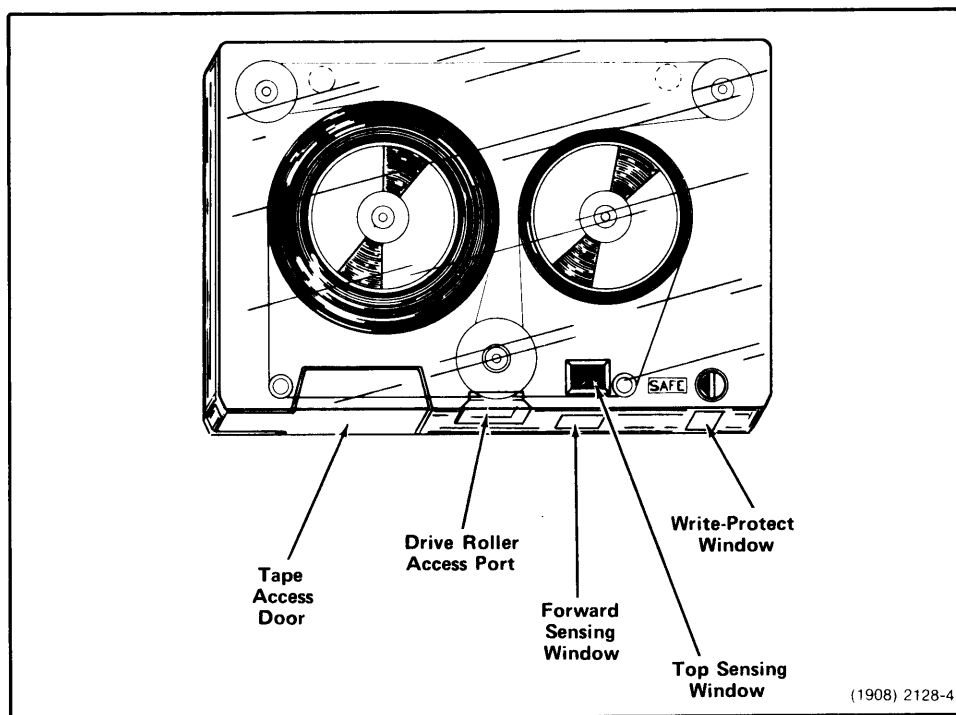

Fig. 2-5. Cartridge components.
2. Do not allow the "windows" for the light-sensing mirrors (Fig. 2-5) to become soiled or dirty, as this may interfere with detection of the position markers (such as End-of-Tape). Under no circumstances should the windows be covered or coated.